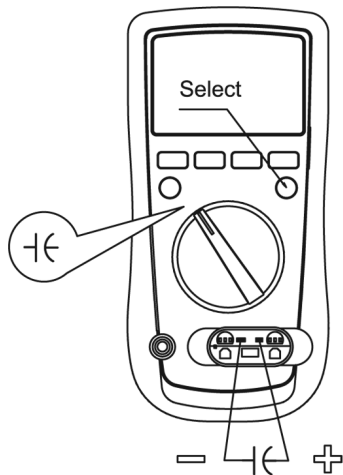

figure 7
- 1 Connect the test leads to the proper terminals as said above to avoid error display. The LCD will display **OL** indicating diode being tested is open or polarity is reversed. The unit of diode is Volt (V), displaying the forward voltage drop readings.
F. Capacitance Measurement (See figure 7)